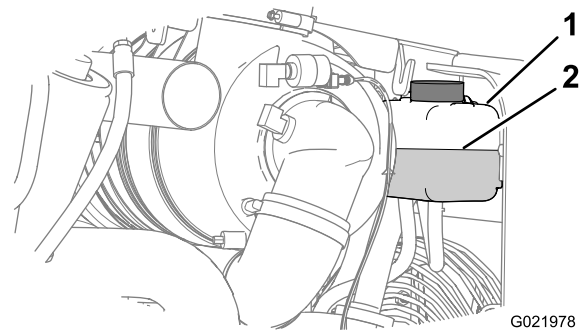

Figure 77
4. Check the coolant level in the reservoir (Figure 77).
Note: Ensure that the coolant level is between the Add mark and the Full mark on the reservoir (Figure 77).